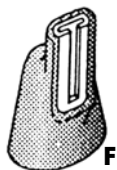

Fig. 4
6. Incorporate the female into the coping/crown. If the abutment is to have a full-coverage porcelain crown, the attachment must have a thin layer (0.4 mm minimum) of alloy surrounding the female and supporting the portion extended above the occlusal surface of the casting. This will prevent porcelain from contacting the attachment. If this is not done, checking of the porcelain can result (Fig. 4).